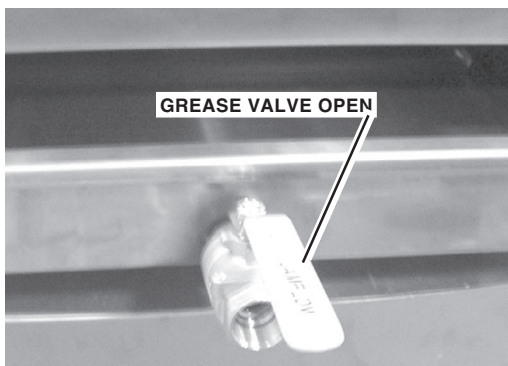
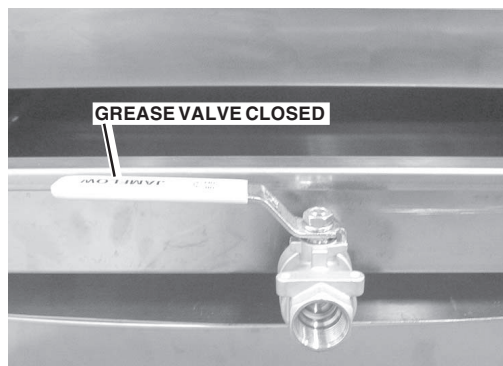

Fig. 18
Fig. 19
3. Open grease drain valve (Fig. 18). Close grease drain valve when drawer is empty or when container is full (Fig. 19).